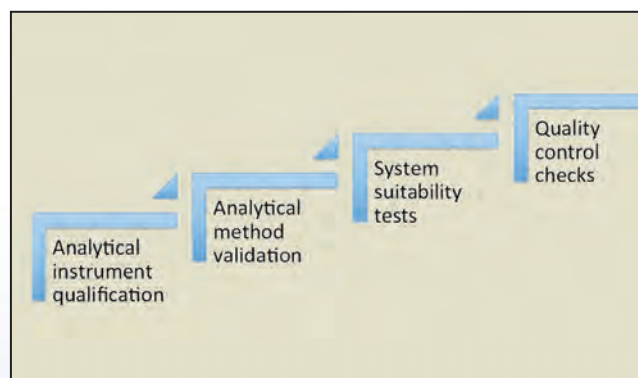

Figure 3: Security of analytical data quality
tion is to provide proof of system suitability for the intended use. If successfully completed any method validation can be started. When the method validation process is finished, any frequent system suitability test will verify that the system performs according to the analytical expectations (PQ). With quality control checks, the accuracy of sample analysis will be verified. The analytical data quality is only given if all these components fulfil the expected limits. Taking the components of analytical data quality (see figure 3) into account, the instrument qualification becomes the basis of all.